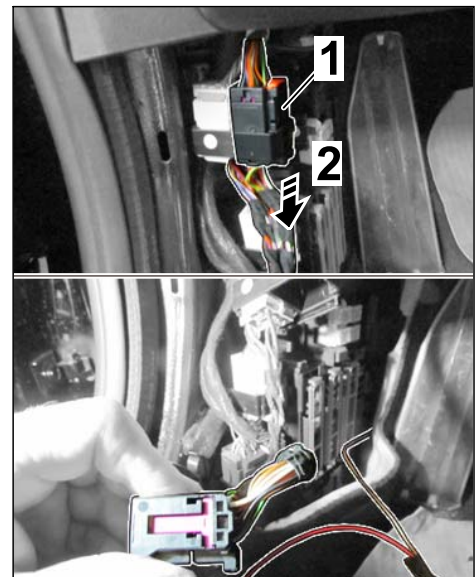

Figure 4
- 2.3 Plug power supply line - **red cable** - at the **black** connector housing connection point for the door wire harness on the connector side coming from the vehicle into ⇒ *Figure 4 -1-pin 16*. Release connector and guide pin into the connector housing until it locks with an audible click. Lock the connector again and connect it. Route cable on the wiring harness ⇒ *Figure 4-2*- down to the vehicle floor and secure it to the wiring harness using suitable adhesive tape/wrapping tape. **Do not use tie-wraps!**